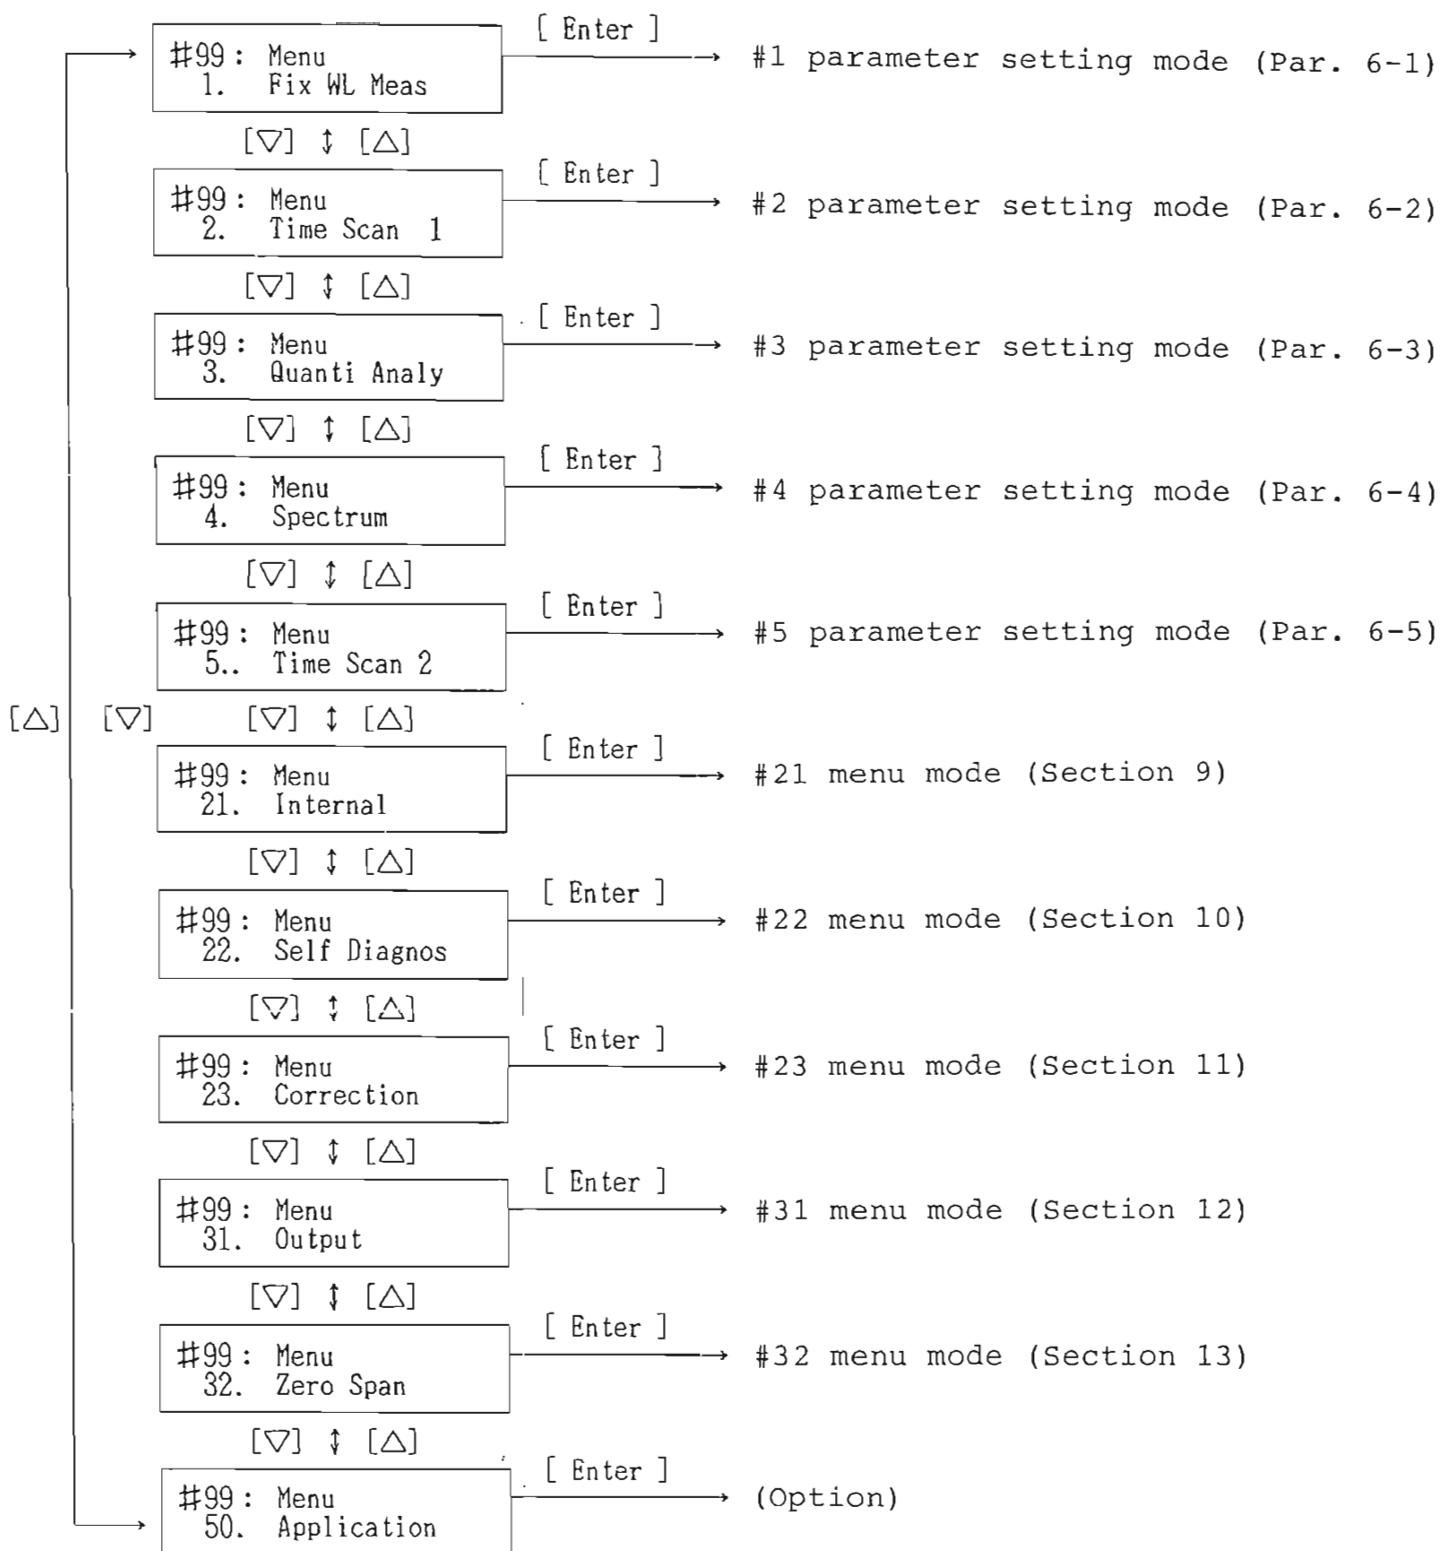

Fig. 5-2 Menu selection mode and key operation.
(2) Call the desired method by the following key operation.
- ① Press the [Method] key. LCD displays the menu selection mode (Fig. 5-2).
- ② On the display shown in Fig. 5-2, the method display can be changed in sequence with the cursor keys ([V], [Δ]).
- ③ When the desired method is displayed, press the [Enter] key.